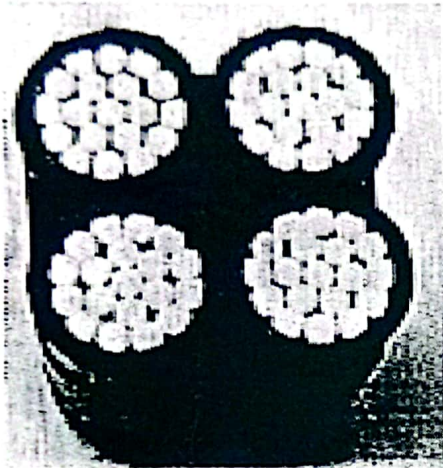

Figure 1 : Fully Supported Cable
- ☐ Fully supported (Refer figure 1) - where all the equal-sized phase and neutral cores share the mechanical load.